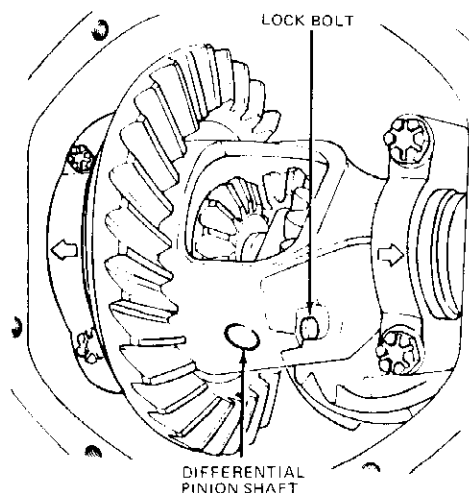

FIG. 2 Differential Pinion Shaft and Lock Bolt
4. Remove differential pinion shaft lock screw and differential pinion shaft. (Fig. 2)